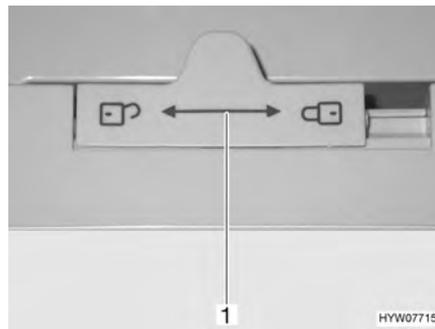

Fig. 193 Locking of the refrigerator door (Dometic 7 series)
- Push the lock (Fig. 193,1) to the left "🔓".
- Push the lock (Fig. 193,1) completely to the right "🔒".